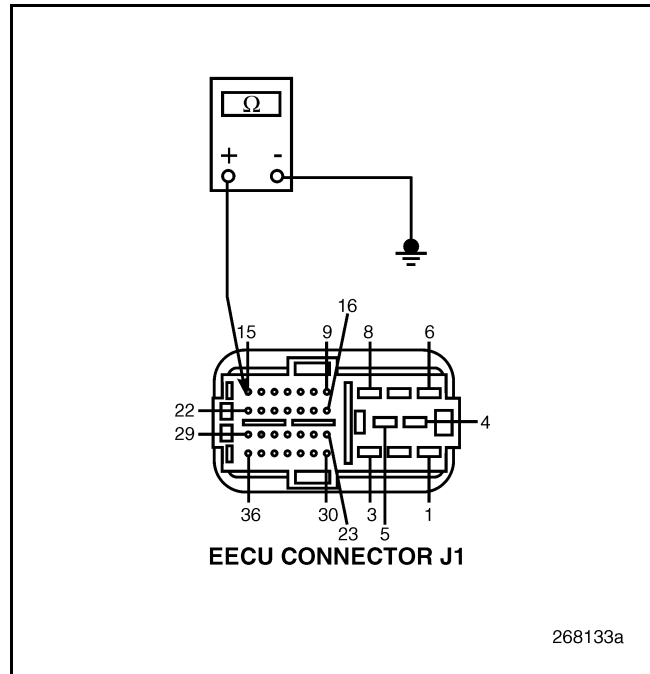

Figure 842
4. Check for continuity between EECU harness connector J1, pin 15 and a good ground (see Figure 842).